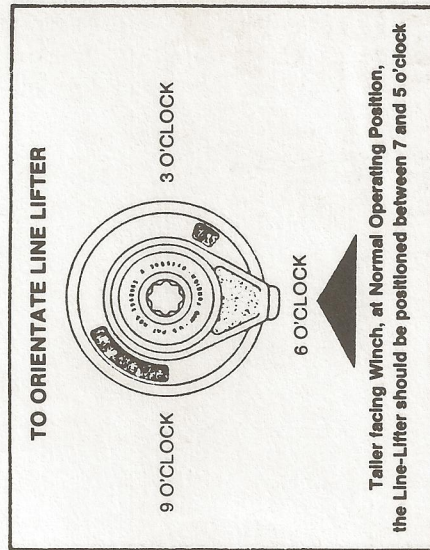

Fig. 1.
- Bolt the base (9) to a flat and smooth surface drilled to take six flat head bolts or screws $\frac{5}{16}$ " (8mm) dia. on $4\frac{3}{8}$ " (111mm) bolt circle dia. **NOTE:** It is not necessary to remove the gearbox (8) from the base (9). Use the base (9) as a template. Apply only light coat of bedding (sealing) compound to seal the base to the deck.
- Install the drum assy. with the line lifter in suitable sheeting position over the gearbox assy. (8) (see fig. 1).
- Replace the retaining nut (17) and tighten firmly.